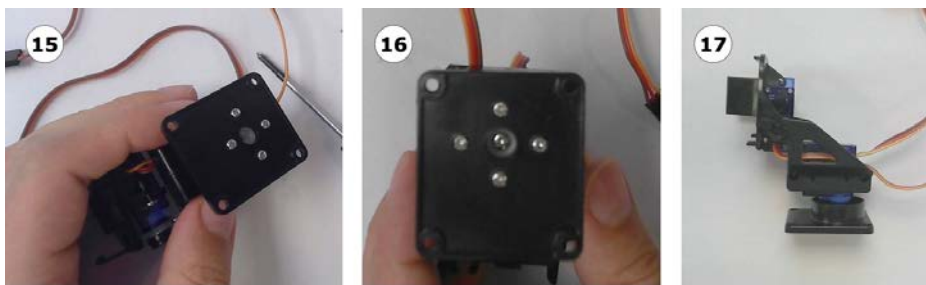

Figure 10.15 – Combining the base with the mechanism
1. *Figure 10.15* shows how to attach the mechanism to its base. Push the collar from the servo horn screwed into the base onto the pan servo spindle. Line it up so that the long axis of the base is in line with the bottom of the mechanism.